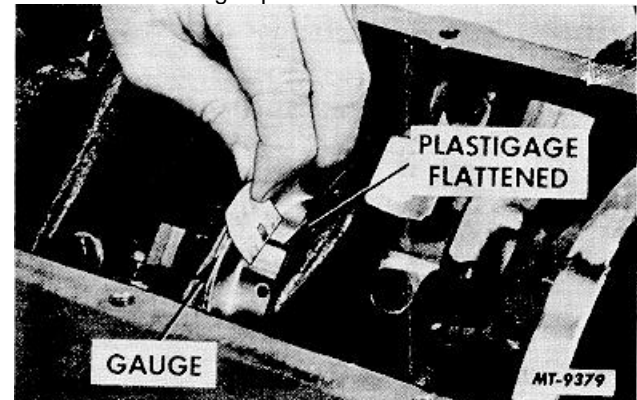

Fig. 120 Checking Main Bearing Clearances
5. Do not disturb Plastigage. Using the Plastigage envelope, measure the widest point of the Plastigage, Fig. 120. This reading indicates the bearing clearance in thousandths of an inch.